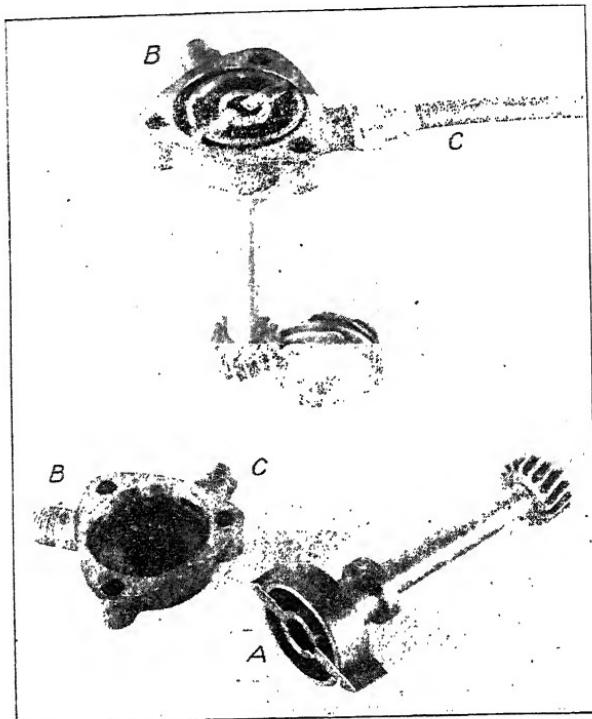

Fig. 22. Disassembled and Assembled View of Vane-Type Pump
**Vane-Type Pump.** The vane-type pump, Fig. 22, operates on a rather simple principle. The large gear shown is on the crank shaft or on the cam shaft of the engine. As it turns, it